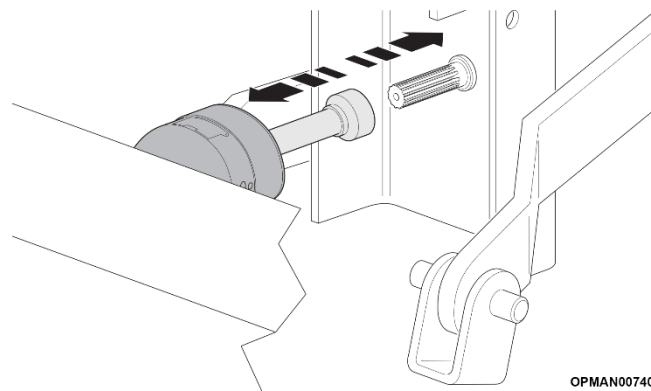

Figure 6
Proceed as follows for the coupling (see Figure 6):
- Switch the agricultural tractor off and connect the input shaft to the tractor PTO (Figure 6);